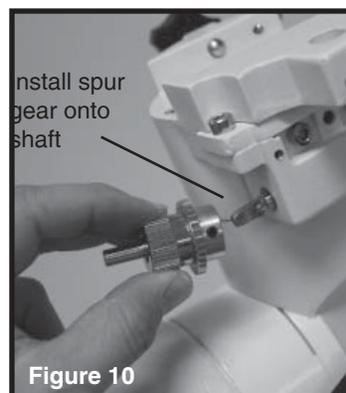

Figure 10
1. Using your hand or slow motion control cable, rotate the DEC worm shaft until the flat portion at the shaft end faces outward. See Figure 10.
2. Attach the brass spur gear onto the longer DEC worm shaft and secure with the 2mm hex wrench. The setscrew must be tightened against the flat surface on the shaft end. See Figure 10.